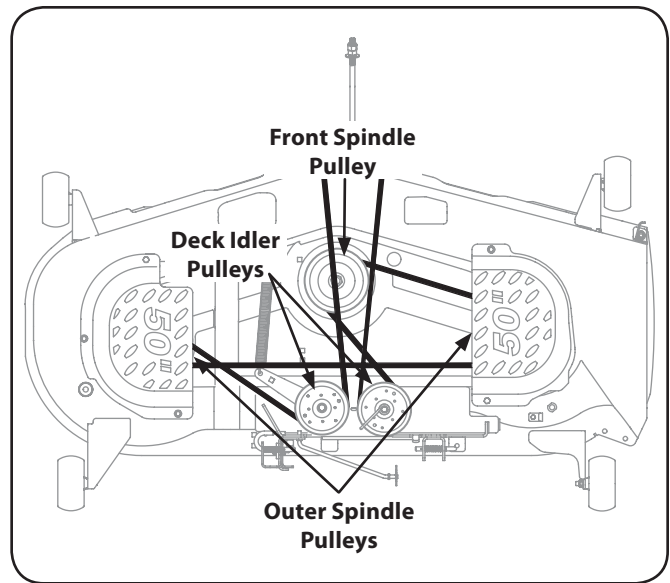

Figure 7-8
4. To place the new belt begin by routing the belt around the two outer spindle pulleys, then around the front spindle pulley as shown in Fig. 7-8.
5. Then route the belt around the two deck idler pulleys as show in Fig. 7-8.